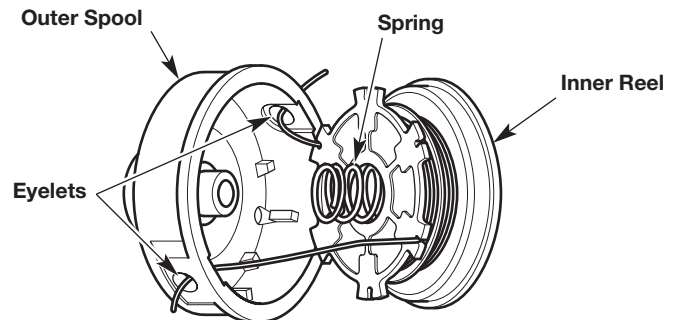

Fig. 23
1. Pass the two line ends through the eyelets in the outer spool (Fig. 23).
2. Place the spring inside the inner reel (Fig. 23).
3. Insert the inner reel into the outer spool (Fig. 23). Push the inner reel and outer spool together.